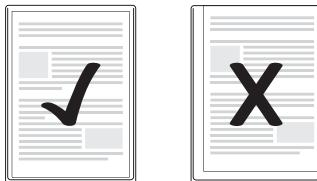

Fig. 1
- Ensure that all edges of the document have at least two millimetres of space to the edges of the laminating pouch, as shown in Fig. 1.
- Ensure that all edges of the document have at least two millimetres of space to the edges of the laminating pouch, as shown in Fig. 1 (see p. 8).